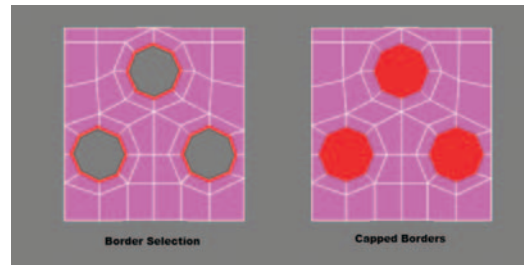

Figure 5.16 Border selection and capped result.
16. Go to the Border subobject level, and select the three circular openings. You can select them one by one, or use Ctrl+A to select all borders, and then simply deselect (Alt+left-click) the outer border to leave the three desired borders selected. Under Edit Borders click the Cap button to fill the openings (Figure 5.16).